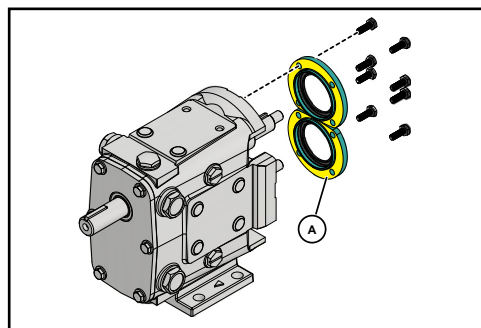

Figure 42 - Remove Sealant from Retainer
- Remove the silicone sealant (Figure 42, item A) from the bearing retainer and gear case.